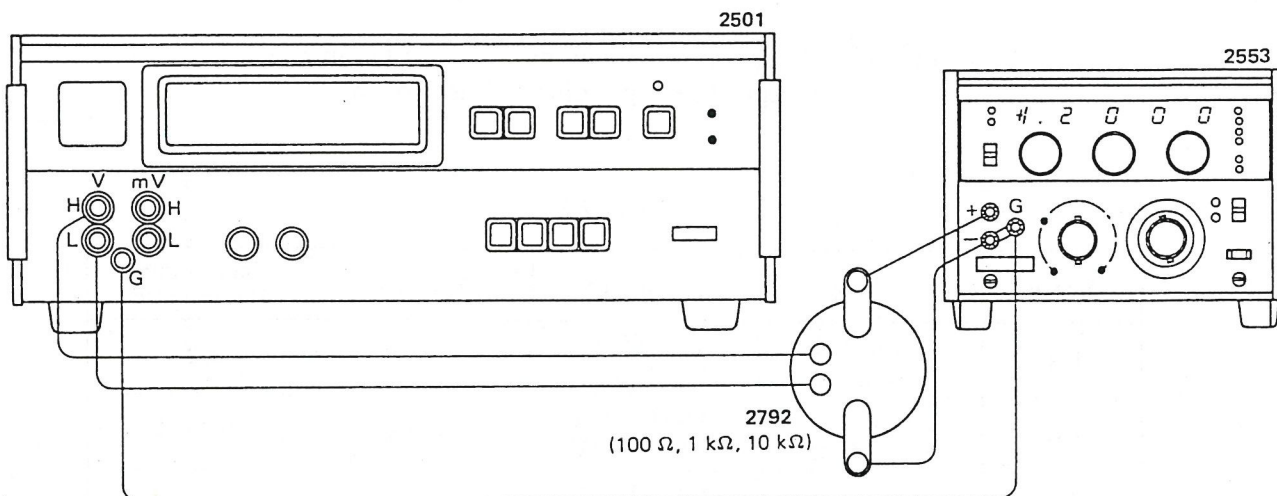

Figure 2-3. Setup for Current Output Accuracy Inspection.
- Connect this instrument, Type 2501 and Type 2792 as shown in Figure 2-3 and measure voltage drops across the voltage terminals of the Type 2792 at each setting given in Table 2-2 by the Type 2501.